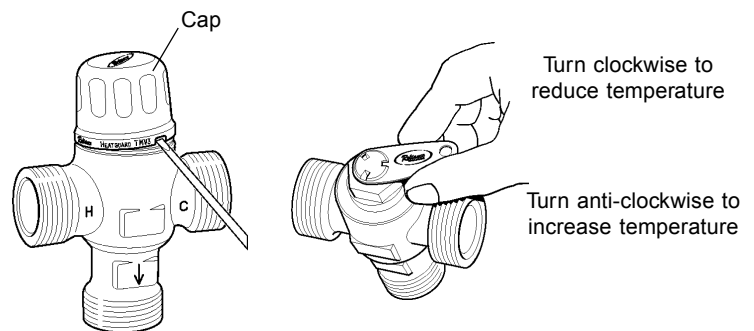

Fig 4
5. Adjust the valve as shown in Fig 4 (using the adjusting key supplied) until the desired mixed outlet temperature is achieved. Refer to HSG274 for guidance on hot water temperatures.